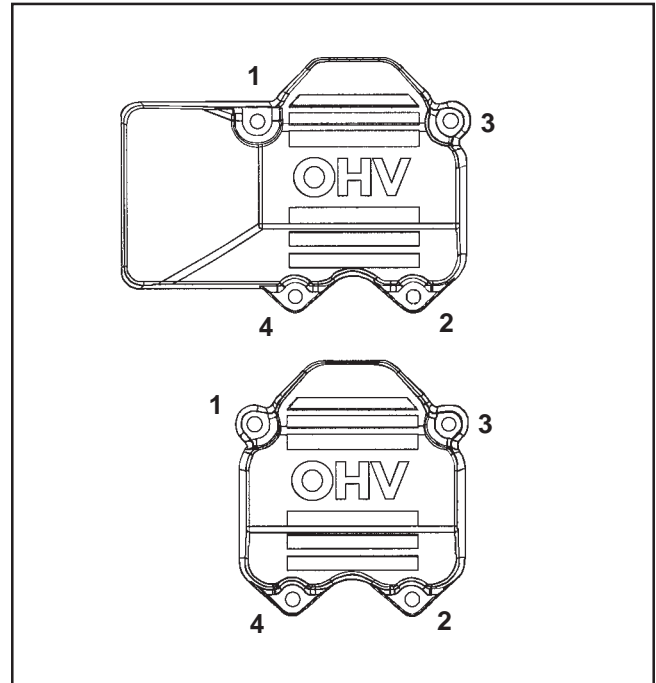

Figure 11-92. Valve Cover Torque Sequence.
5. Torque the mounting screws of each cover in the sequence shown to **6.2 N-m (55 in. lb.)**. Do not overtighten. See Figure 11-92.